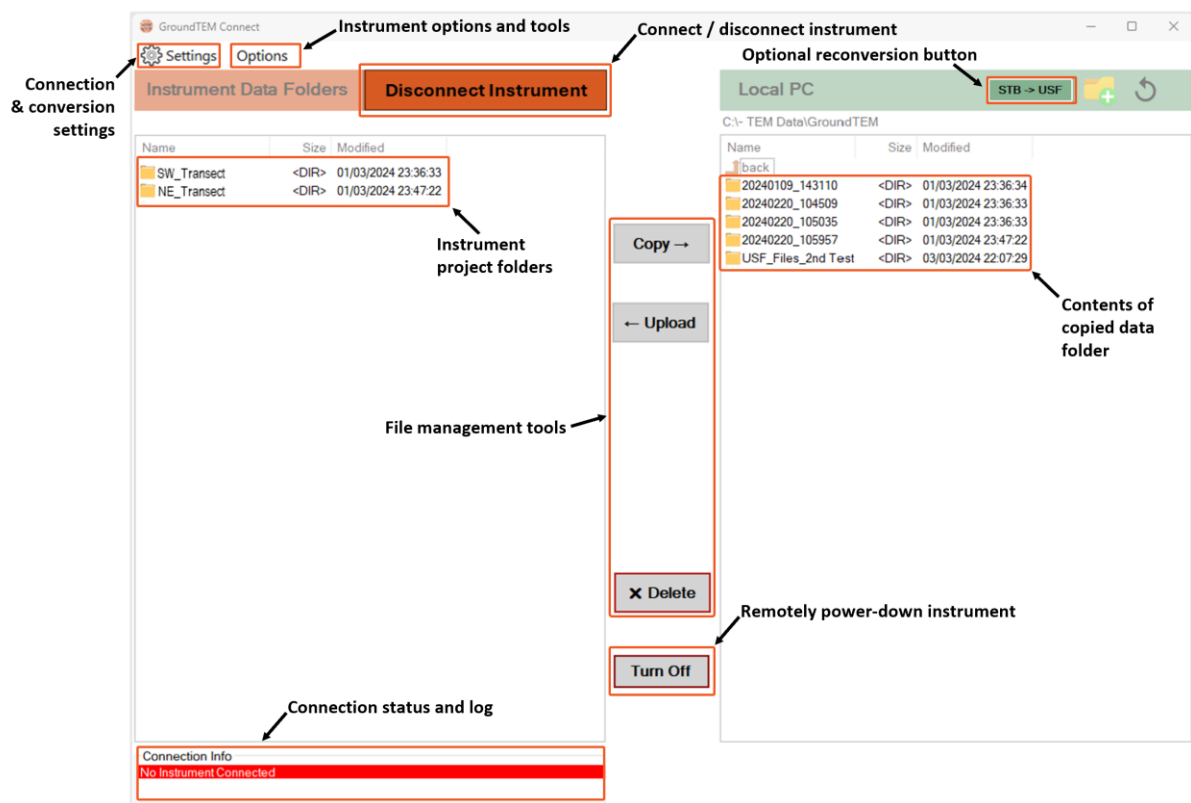

Figure 26. Steps for copying data from GroundTEM unit (after connecting to the instrument).
- Press *Connect to Instrument* to display the data folders on the GroundTEM unit (Figure 26).
In the case where a problem with the conversion might occur, it is possible to manually reconvert stb files on Local PC to USF files. This can be done with the following steps (Figure 26):
GroundTEM Connect also allows the option to include the raw stacks of data when converting to USF files. To do so, follow these steps (Figure 26):